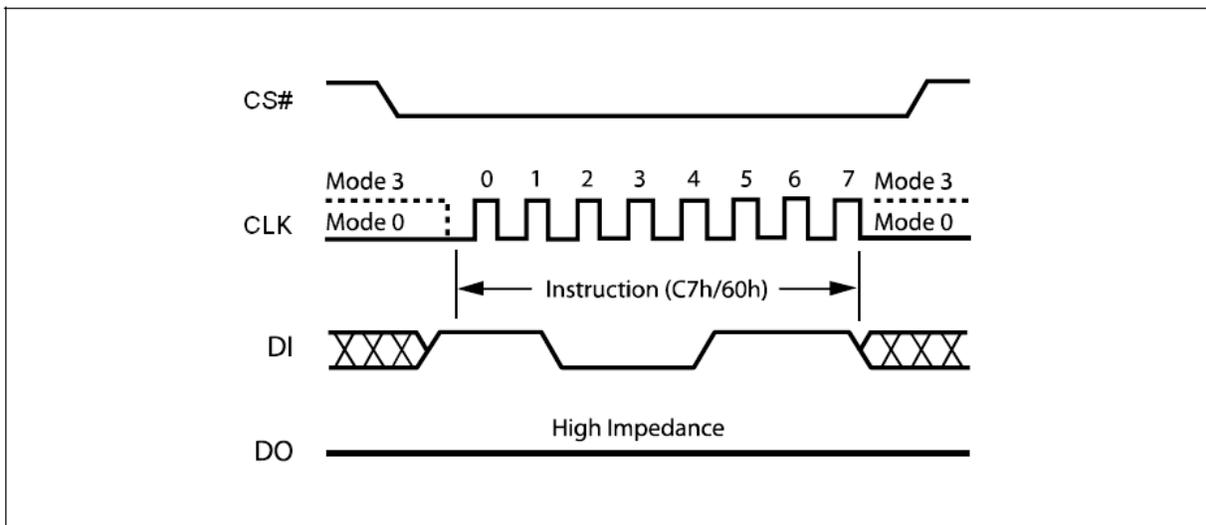

Figure 23. Chip Erase Instruction Sequence Diagram
The Chip Erase (CE) instruction is entered by driving Chip Select (CS#) Low, followed by the instruction code on Serial Data Input (DI). Chip Select (CS#) must be driven Low for the entire duration of the sequence. The instruction sequence is shown in Figure 23. Chip Select (CS#) must be driven High after the eighth bit of the instruction code has been latched in, otherwise the Chip Erase instruction is not executed. As soon as Chip Select (CS#) is driven High, the self-timed Chip Erase cycle (whose duration is t_{CE}) is initiated. While the Chip Erase cycle is in progress, the Status Register may be read to check the value of the Write In Progress (WIP) bit. The Write In Progress (WIP) bit is 1 during the self-timed Chip Erase cycle, and is 0 when it is completed. At some unspecified time before the cycle is completed, the Write Enable Latch (WEL) bit is reset.